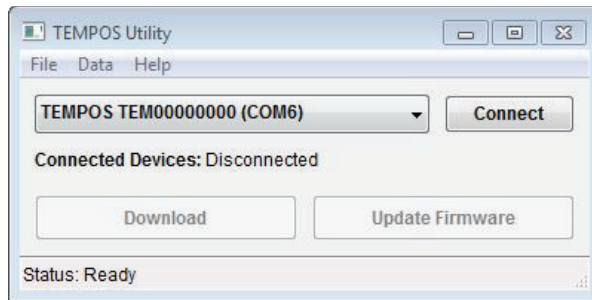

Figure 26 TEMPOS Utility downloader
Once the downloader is installed, TEMPOS Utility will open a new window (Figure 26). The software can now be used to download data from TEMPOS.
2. Once connected, the controller serial number will appear in the TEMPOS Utility dropdown (Figure 26).
5. Press Download to download the data stored on the controller (Figure 26).
5. Click the Update Firmware button in the TEMPOS Utility screen (Figure 26).